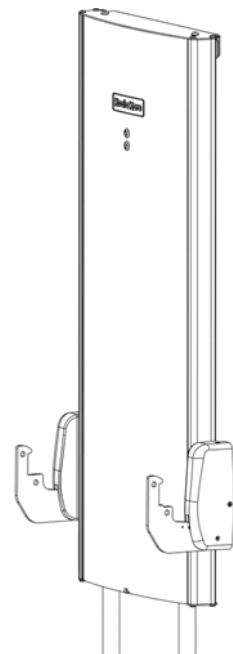

Fig 12.11f
- The M5 x 12 mm screw provided requires the spacer provided to be refitted between the inside of the gas spring cover and metal bracket. Location for the spacer can be seen in Fig 12.11f.